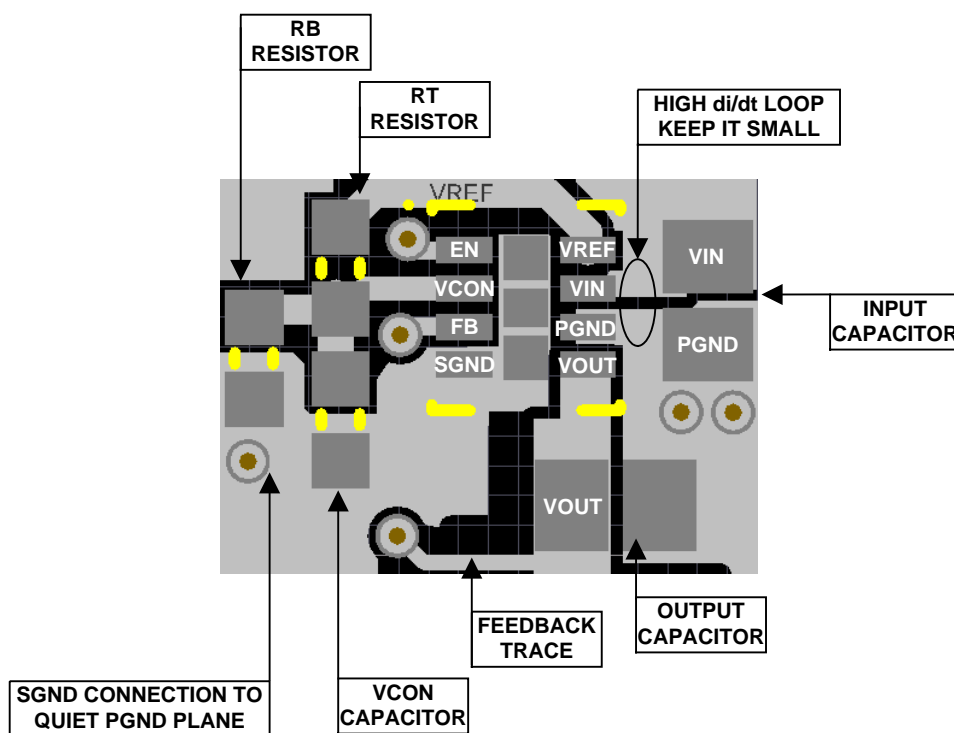

Figure 10. Example Top Layer Board Layout
The LMZ10501 integrates the inductor and simplifies the DC-DC converter board layout. Refer to the example layout in Figure 10. There are a few basic requirements to achieve a good LMZ10501 layout.
- 2. Place the V_{CON} filter capacitor C_{VC} and the R_B R_T resistive divider as close as possible to the V_{CON} and SGND terminals.** The C_{VC} capacitor (not R_B) should be the component closer to the V_{CON} pin, as shown in Figure 10. This allows for better bypass of the control voltage set at V_{CON} .